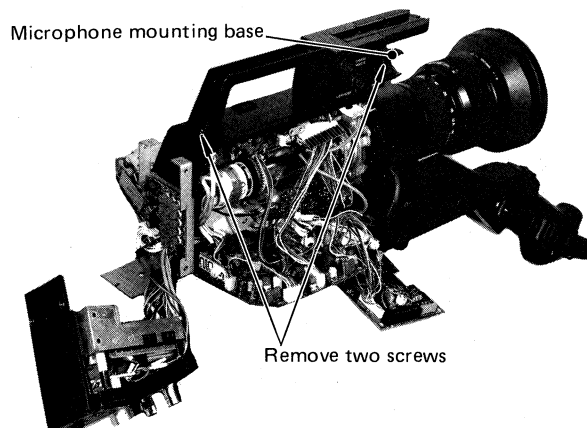

Fig. 3-2-2
- Remove one screw holding the microphone mounting base and one screw holding upper cover. (Fig. 3-2-2)